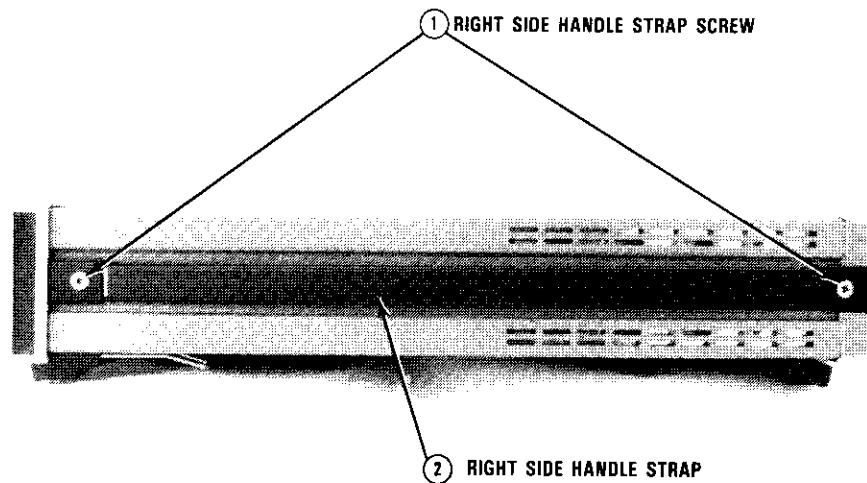

Figure C-1. HP 3458 Right Side
3. Refer to Figure C-1. Turn the instrument so its right side faces you (as seen from the front).
9. Refer to Figure C-1. Turn the instrument so its right side faces you.